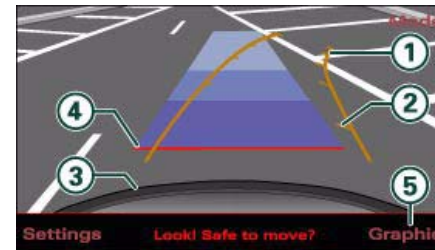
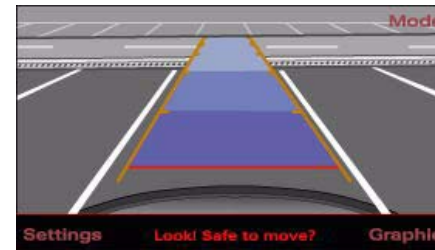

Fig. 192 MMI display: Approaching a parking space
Fig. 193 MMI display: Aligning the vehicle
- Press the control button for **Graphic** ⇒ page 174, fig. 192  to show the graphic display on the screen.
- Turn the steering wheel until the orange orientation lines ① are pointing towards the parking space ⇒ fig. 192. You can estimate the distance to an obstacle by referring to the markings ②. Each marking is equivalent to 1 metre.
- Reverse into the space and adapt the steering angle to the parking space, using the orange lines to assist you ⇒ ①. ③ indicates the rear bumper. You should stop reversing, at the latest, when the red orientation line ④ is bordering on an object ⇒ ⚠!
- Align your vehicle according to the blue area marking ⇒ fig. 193. The blue marking is an extension of the vehicle outline and reaches about five metres to the rear of the vehicle. The shade of blue changes at a distance of approx. 1 m, 2 m and 5 m to the vehicle.